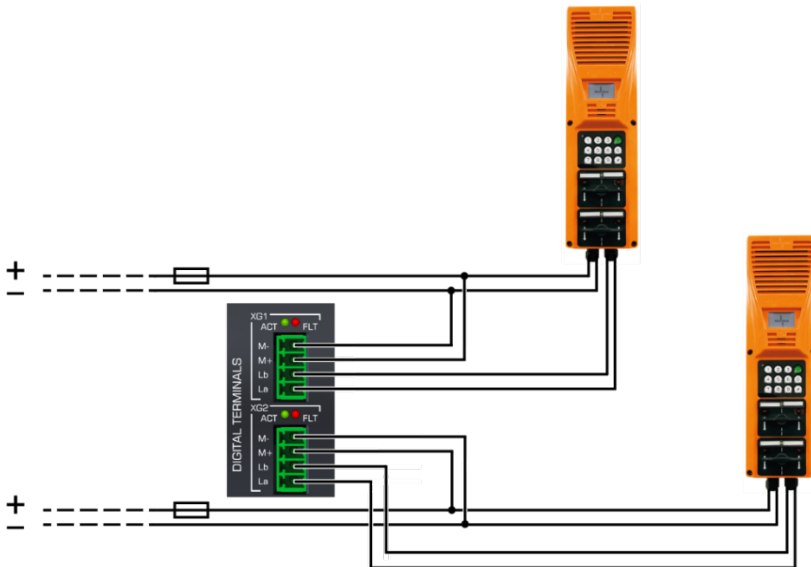

Fig. 6-3: Additional power supply connected to *M- / M+* for both terminal devices
2. Insert the incoming cables for monitoring the additional power supply into terminals *XG1* and *XG2* to *M-* and *M+* (→ Fig. 6-3 and chapter 6.3.2, page 43). Ensure that the polarity is correct.